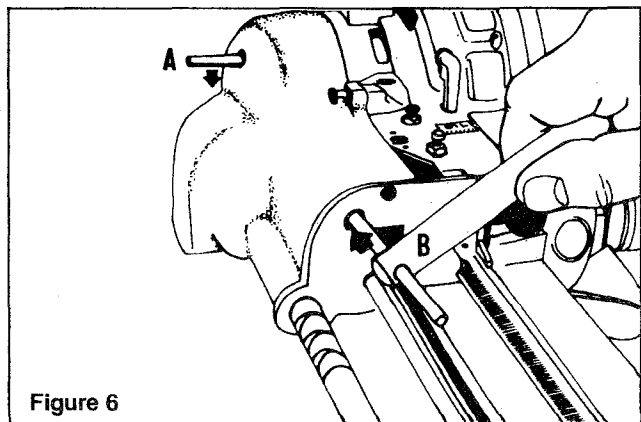

Figure 6
## 2.9 TO REMOVE SHARPENER FROM MACHINE (Figure 6)
- b) Figure 6: Disengage Tripper Handle "A" by inserting handle of Knife Key "B" through hole in lower cover and pressing upwards until Tripper Handle snaps back to its "off" position.